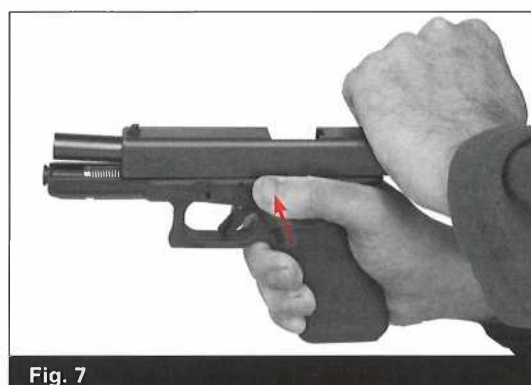

Fig. 7
- While pulling the slide to the rear, push upwards on the slide stop to lock the slide to the rear. (Fig. 7)